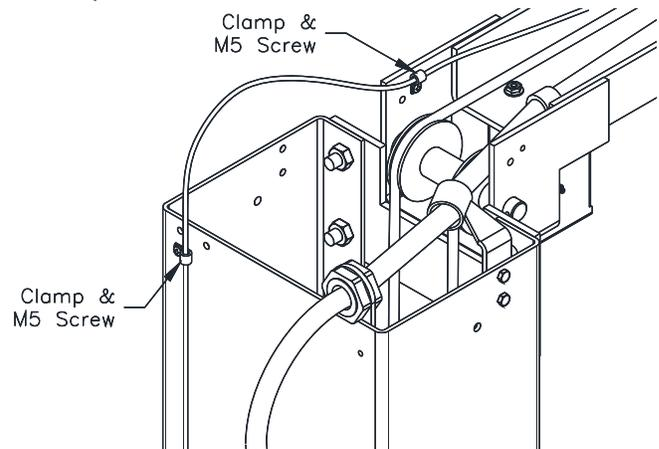

Fig. 10 – Lock Cable Routing
33) Secure Lock Release Cable at the top of each column extension as shown in Fig 10. Lock Release Cable should be routed on the opposite side of the Overhead Beam as the Idler Hose to prevent interference.